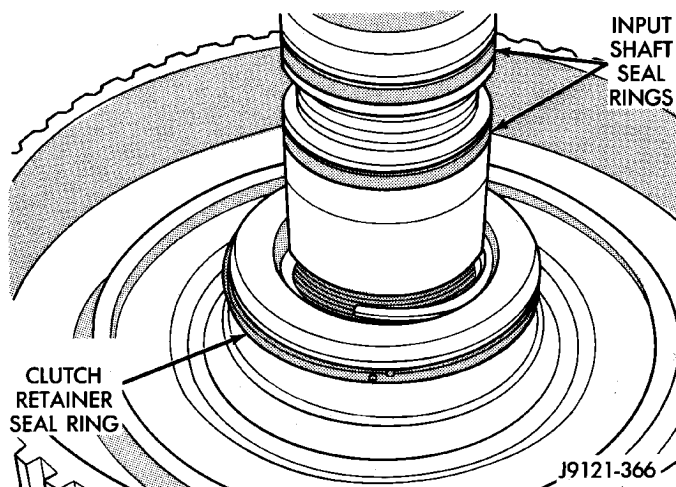

Fig. 171 Input Shaft Seal Ring Locations
(16) Install new seal rings on input shaft if necessary (Fig. 171). Be very sure ring ends are all securely hooked together before proceeding.